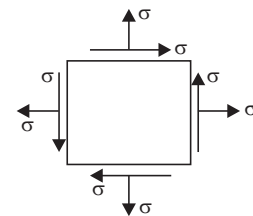

FIGURE 10.15
1. The maximum principal stress for the stress state shown in Fig. 10.15 is